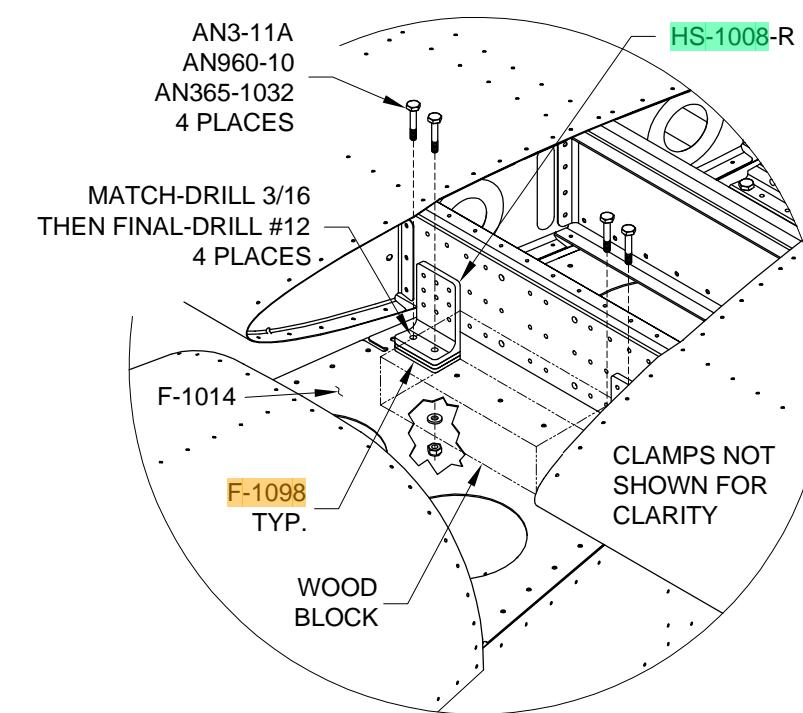

FIGURE 3: MATCH-DRILL SPACERS AND TAILCONE
Step 3: Match-Drill #12 the F-1098 Shims, F-1014 Aft Deck, F-1010B Spacer and F-1010A Angle using the four holes in the HS-1008 Horizontal Stabilizer Front Spar Attach Brackets as drill guides as shown in Figure 3. It may be necessary to use at least a 6 inch long extended drill bit. The F-1010B Spacer and F-1010A Angle are not shown. Remove the horizontal stabilizer. Deburr and prime if as desired. Bolt the horizontal stabilizer to the tailcone using the hardware shown in Figure 3 and Page 4, Figure 4.